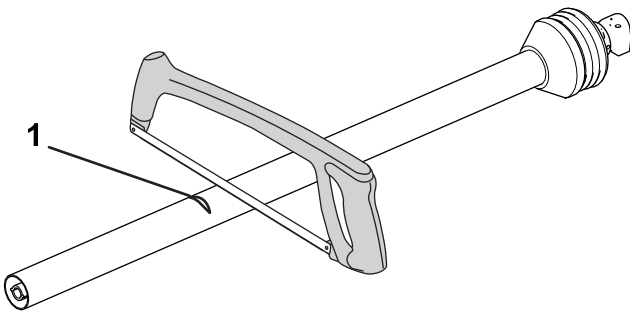

Figure 14
7. Remove and cut each section at the mark (Figure 14).